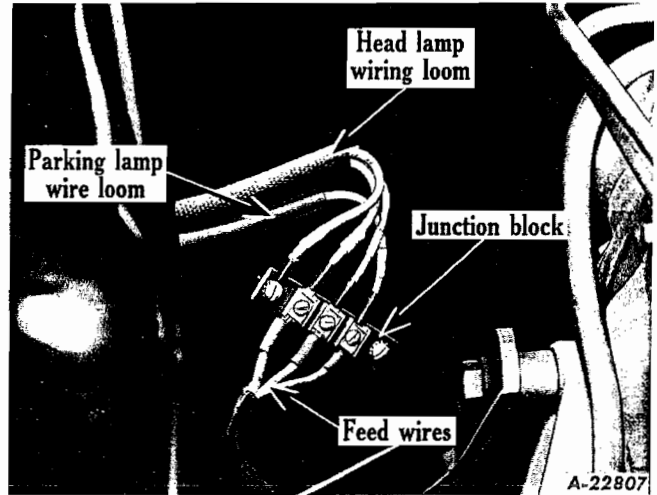

Fig. 72
8. Remove the three head lamp feed wires from junction blocks on both fender side shields (Fig. 72).